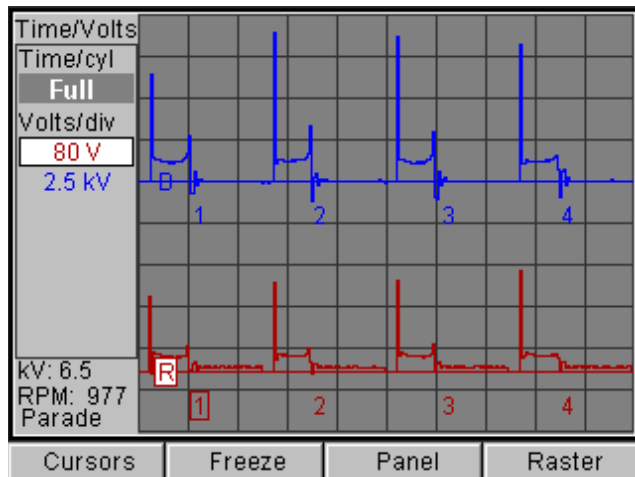
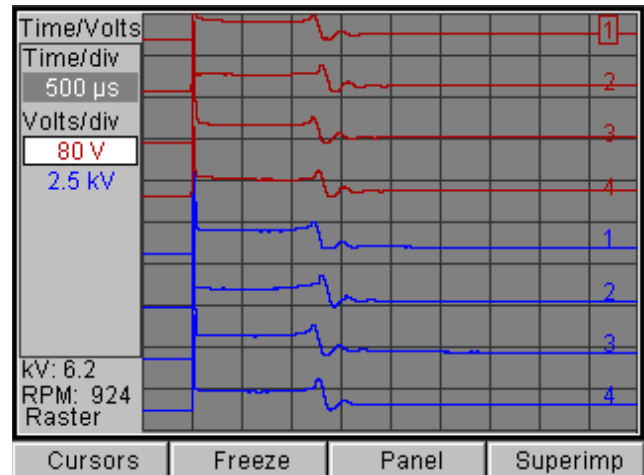
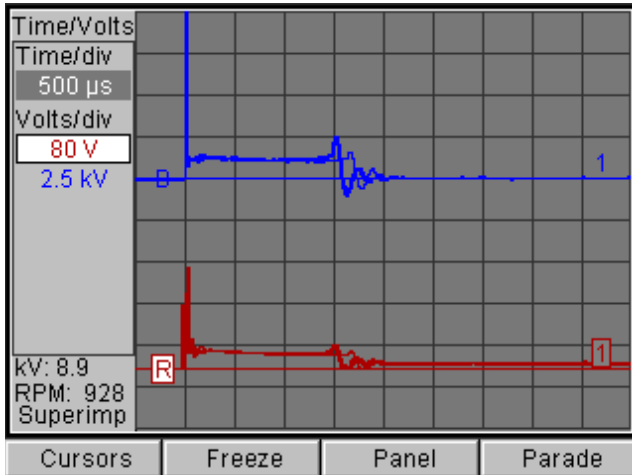

Figure 8.12: Ignition Scope Screen, DMM Off - Parade Display Mode
Figure 8.13: Ignition Scope Screen, DMM Off - Raster Display Mode
Figure 8.14: Ignition Scope Screen, DMM Off - Superimposed Display Mode
- 9 After selecting the display mode, press the **ENTER** key to display the waveforms. See Figure 8.12, Figure 8.13, and Figure 8.14.